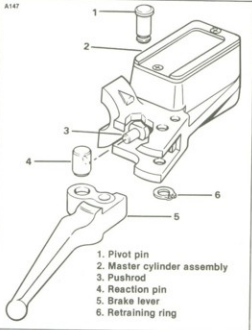

Figure 2-48. Front Brake Hand Lever
4. See Figure 2-48. Lightly coat reaction pin (4) with Loctite ANTI-SEIZE and insert it into the large hole in the brake lever (5). Assemble the brake lever (5) to the master cylinder assembly (2) using pivot pin (1) and retaining ring (6). Make sure the push rod (3) fits into hole in reaction pin (4). Check front brake lever for proper operation.